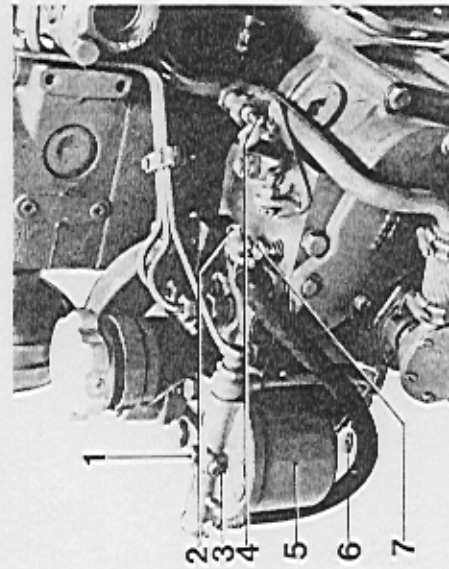

Fig. 23
Change the fine filter after every 100 hours running, or at least once each season. Thoroughly clean the whole of the outside of the filter body (see Fig. 23). Remove the centre bolt on the cover and take down the container and filter. Clean the inside of the container thoroughly. Check to make sure that the packings are not damaged. Fit a new filter. Vent the fuel system (see point 10).
1. Open the vent screw on the fine filter, Fig. 23.